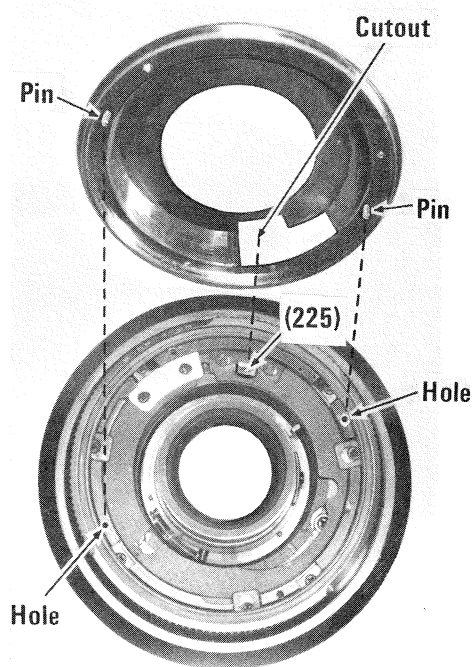

FIG. 9-9
- b) With the lens positioned as shown in Fig. 9-9, set the tool down on the lens so that the aperture coupling arm enters the cutout of the tool and the positioning pins of the tool enter the mount screw holes.